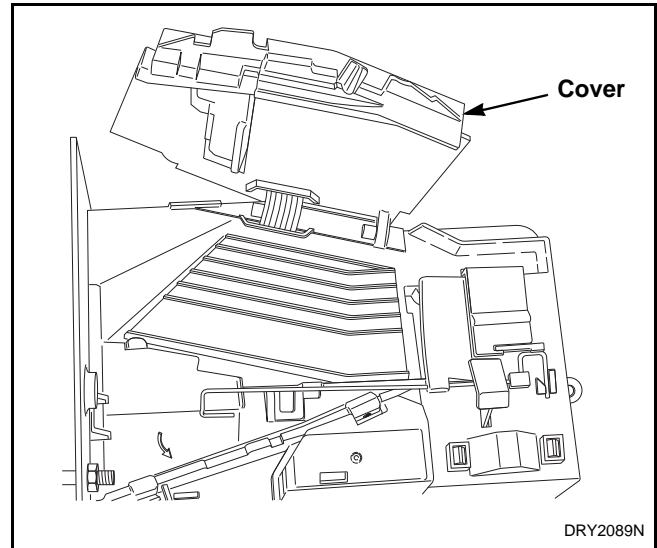

Figure 69
- Open cover for coin drop. Refer to Figure 69.